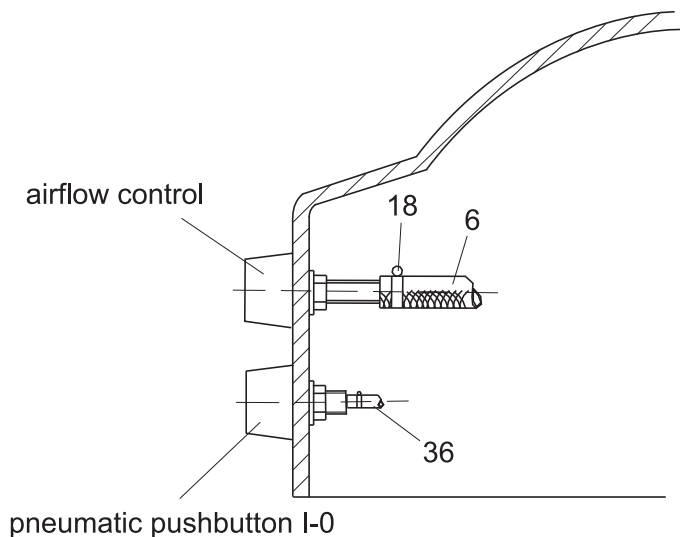

Fig. 7
- 10.1 Switching the unit ON or OFF is done by pressing the pneumatic push button built into the housing, page 57 fig. 7 + 8) The pushbutton can be actuated from inside the pool.
- 10.2 The air regulator enables the intake of air in order to achieve a bubbling effect. The amount of air that is taken in can be regulated from inside the pool, page 57 fig. 7 + 8).